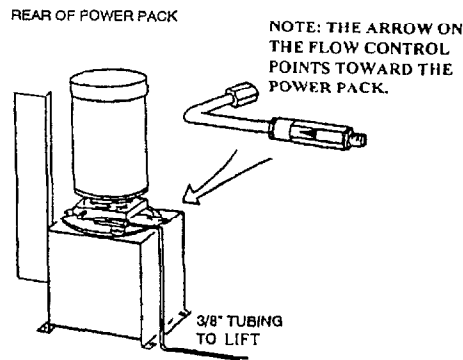

Figure 3:
3. Using a hydraulic tube bender, run a hydraulic line from the flow control (power pack) to the hydraulic inlet fitting located on the left side of the left base frame. After all the lines are cut and formed, install the nuts and sleeves, and then flare the ends of the tube. Refer to **Figure 3**.